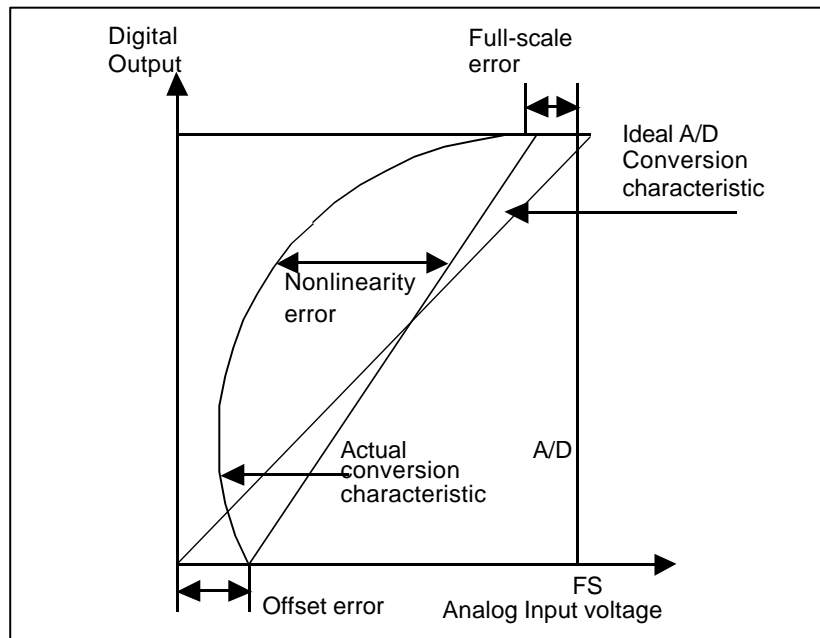

Figure 13.4 A/D Converter Accuracy Definitions (1)
- Offset error: Deviation from ideal A/D conversion characteristic of analog input voltage required to raise digital output from minimum voltage value 0000000000 to 0000000001 (figure 13.4)
- Full-scale error: Deviation from ideal A.D conversion characteristic of analog input voltage required to raise digital output from 1111111110 to 1111111111 (figure 13.4)